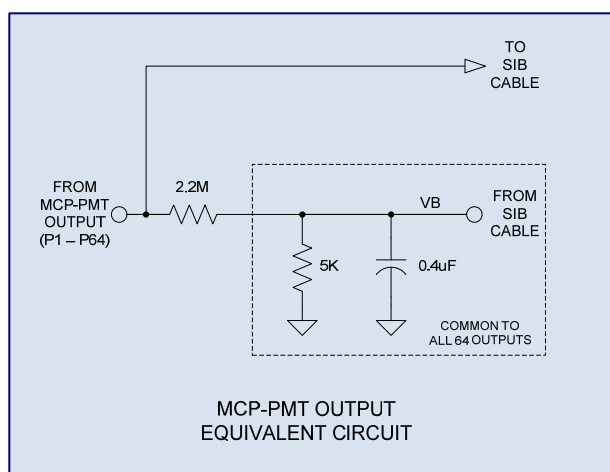

Figure 4: Anode Circuit
The 64 anode signals (P1 – P64) from the XP85013 MCP-PMT are routed directly on the SIB264 to two specialized connectors referred to as sensor interface board (SIB) connectors. Anodes P1 to P32 route to SIB connector J1 and anodes P33 to P64 route to SIB connector J2. Each SIB connector mates to a proprietary low-noise, high density SIB cable assembly that carries the 32 anode signals on coaxial connections to a Vertilon PhotoniQ 64 channel PMT data acquisition system. Depending on the required speed and dynamic range, either a PhotoniQ IQSP482 high dynamic range system or an IQSP582 high speed system can be used as the main data acquisition unit. To minimize the possibility of damage due to ESD, the XP85013 anodes each have a 2.2 Mohm shunt resistor to a common low impedance point. This point is biased at a voltage equal to the bias voltage (VB) of the charge integrating transimpedance amplifiers on the PhotoniQ so that the anodes can be DC coupled to the amplifiers. Figure 4 below illustrates the equivalent circuit as seen by each MCP-PMT anode.